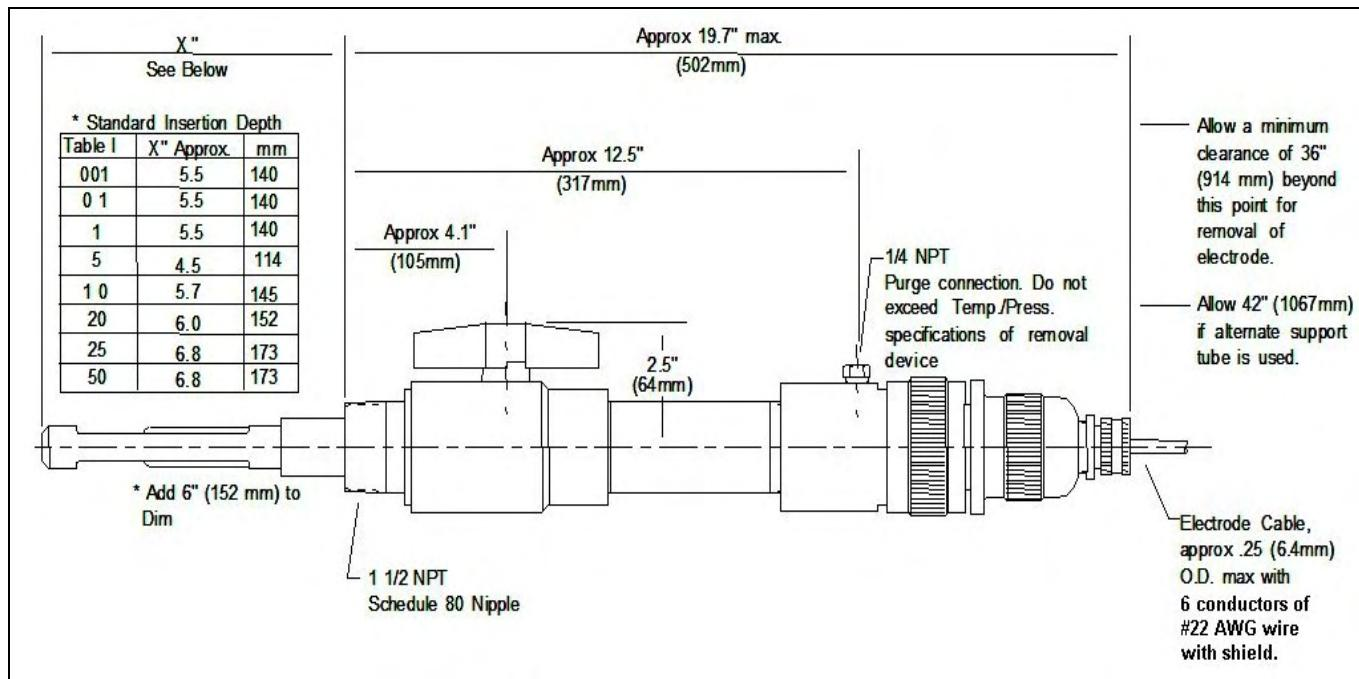
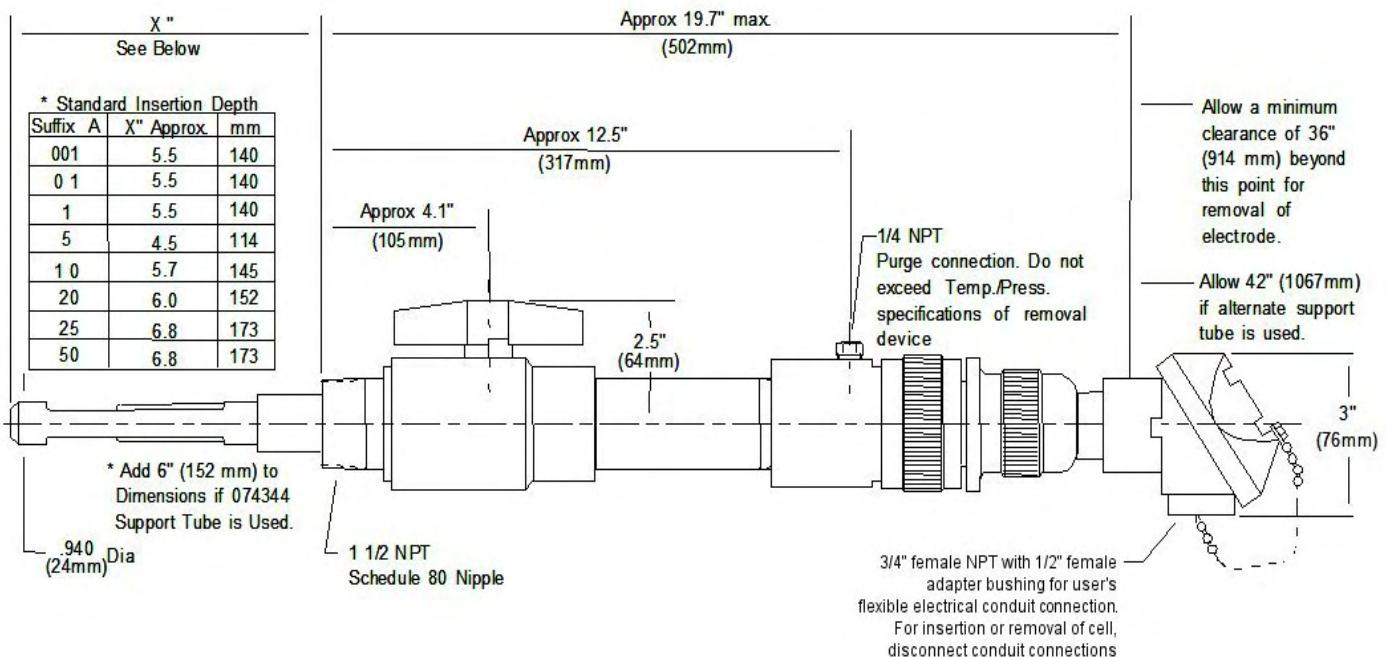

Figure 3-1 Outline and dimension drawing for Conductivity Cell, Insertion Type with CPVC Removal Device with 20' cable
Figure 3-2 Outline and Dimension drawing for Conductivity Cell, Insertion Type with CPVC Removal Device and Universal Head
1-1/2" NPT male pipe. Overall length of removal device: approximately 20 or 22 inches (allow additional clearance for cell withdrawal). See Figure 3-1 and Figure 3-2.
Varies between 4.5" and 6.8" nominal, depending upon cell constant. Greater insertion depth optional. See Figure 3-1 and Figure 3-2.
Refer to Figure 3-1 or Figure 3-2 for mounting dimensions.
Allow for insertion depth from the outside wall of the mounting surface as indicated by the dimensions in Figure 3-1 or Figure 3-2.
Allow clearance behind the support grip to permit removal of the cell per dimensions in Figure 3-1 or Figure 3-2.
2. Withdraw the support tube, bushing, washer and handle assembly keeping the bushing and washer in place on the support tube. When greater insertion depth of the conductivity cell into the process solution is desired, p/n 31074344 Support Tube will give an additional 6 inches immersion beyond the standard depth. See Figure 3-1 and Figure 3-2. If 31074344 Support Tube is to be used, it must be secured to the support grip.
Cells are available with leadwire of 20 feet. For distances greater than 20 feet, use the required length of cable and a junction box, as noted in the Wiring Diagrams. For assemblies supplied with a Universal Head, Figure 3-2, a junction box is not required.